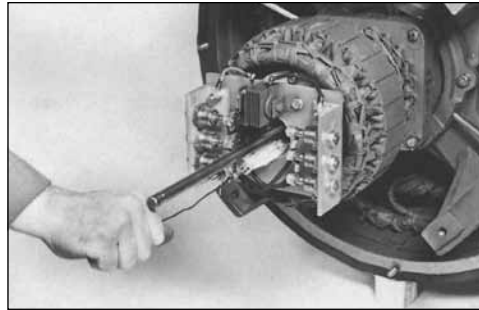

Figure 6-71
1. Attach a wire to the main rotor leads and feed the wire through the armature bore and out the lead hole in the aluminum standoff plate. On larger exciters, it will be helpful to install a guide pin in the end of the shaft to support the armature while fishing the rotor leads through (figure 6-70). Align the key in the armature bore to the keyway in the shaft. Slide the armature on the shaft while feeding the main rotor leads through the lead hole in the aluminum standoff plate (figure 6-71).